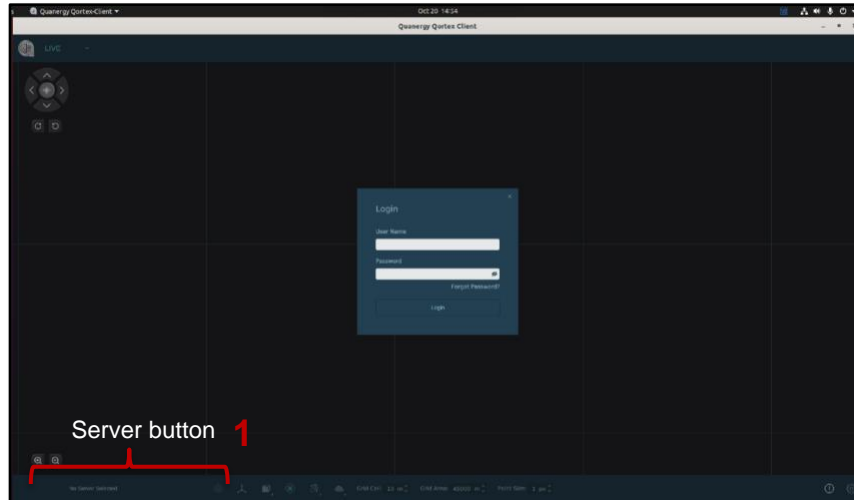

Figure 18. Client Window First Time Start
If the client is on an Ubuntu system, you provide the server IP address when the client is started for the first time. If the client is on a Windows system, the server is connected after the client starts. See Figure 18. Client Window First Time Start.
1. From the QORTEX DTC client interface, click the **No Server Selected** button. See Figure 18. Client Window First Time Start.